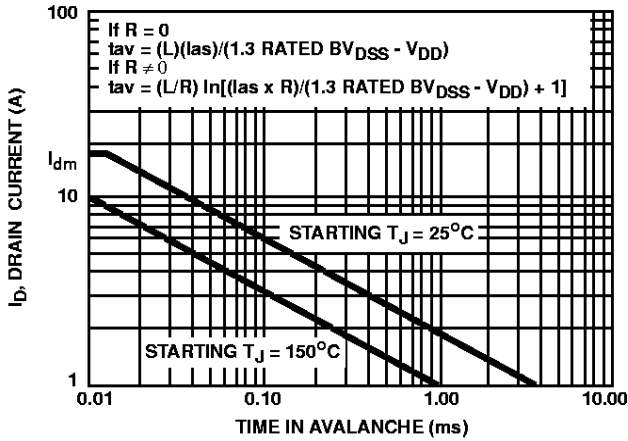

FIGURE 3. UNCLAMPED INDUCTIVE SWITCHING SOA
- $V_{DD} = 25\text{V}$, starting $T_J = 25^\circ\text{C}$, $L = 640\mu\text{H}$, $R_G = 25\Omega$, peak $I_{AS} = 9.2\text{A}$ (Figures 3, 14, 15).